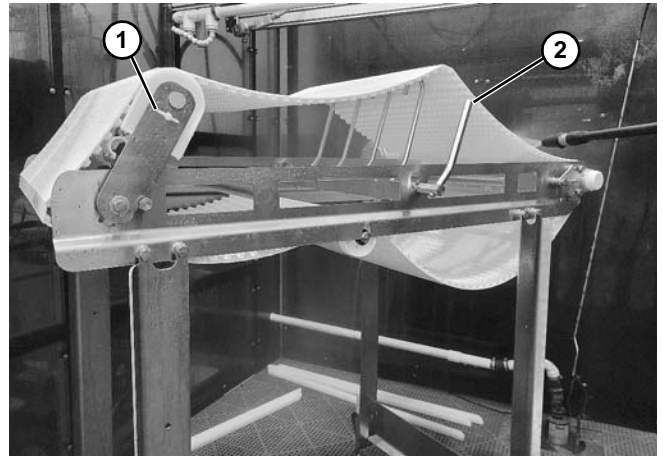

Figure 3
4. Tip up tail (**Figure 3, item 1**) to gain access to inside of conveyor.
5. Engage belt lifters (**Figure 3, item 2**), if equipped.